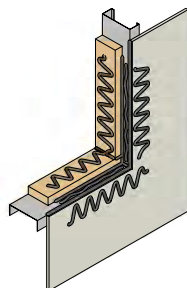

Figure 9
2. Apply a thick bead of MasterSeal AWB 900 in a zigzag pattern to the rough opening, and onto the exterior wall. (See Figure 9 or 13). Spread MasterSeal AWB 900 evenly, creating a continuous, void and pinhole-free membrane with a thickness of 12-30 mils.